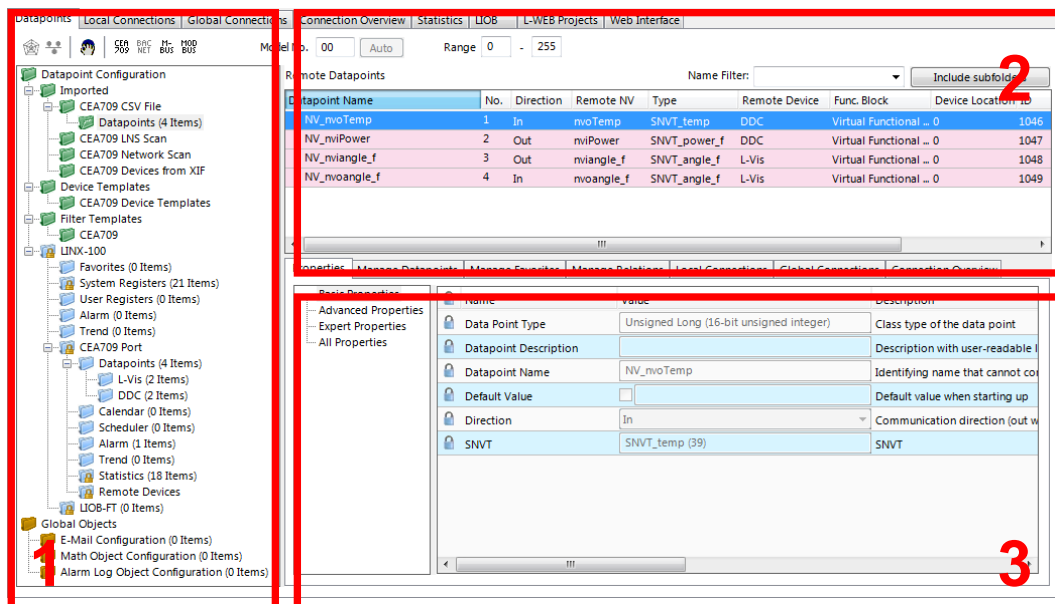

Figure 21: Data Point Manager Dialog.
The Configurator uses a central concept to manage data points. The data point manager is located on the **Datapoints** tab as shown in Figure 21. It is used to select, create, edit and delete data points. The dialog is divided into three sections:
- The folder list (number 1 in Figure 21),
- The data point list (number 2 in Figure 21),
- And a property view (number 3 in Figure 21).